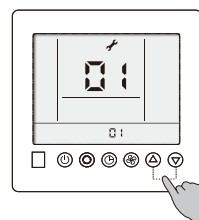

fig.2
2. Press Up or Down button to adjust to the customer-reading parameter code to read. For detailed information, please refer to Table 1. For example, the picture below means that it is a duct indoor unit. (See fig.2)